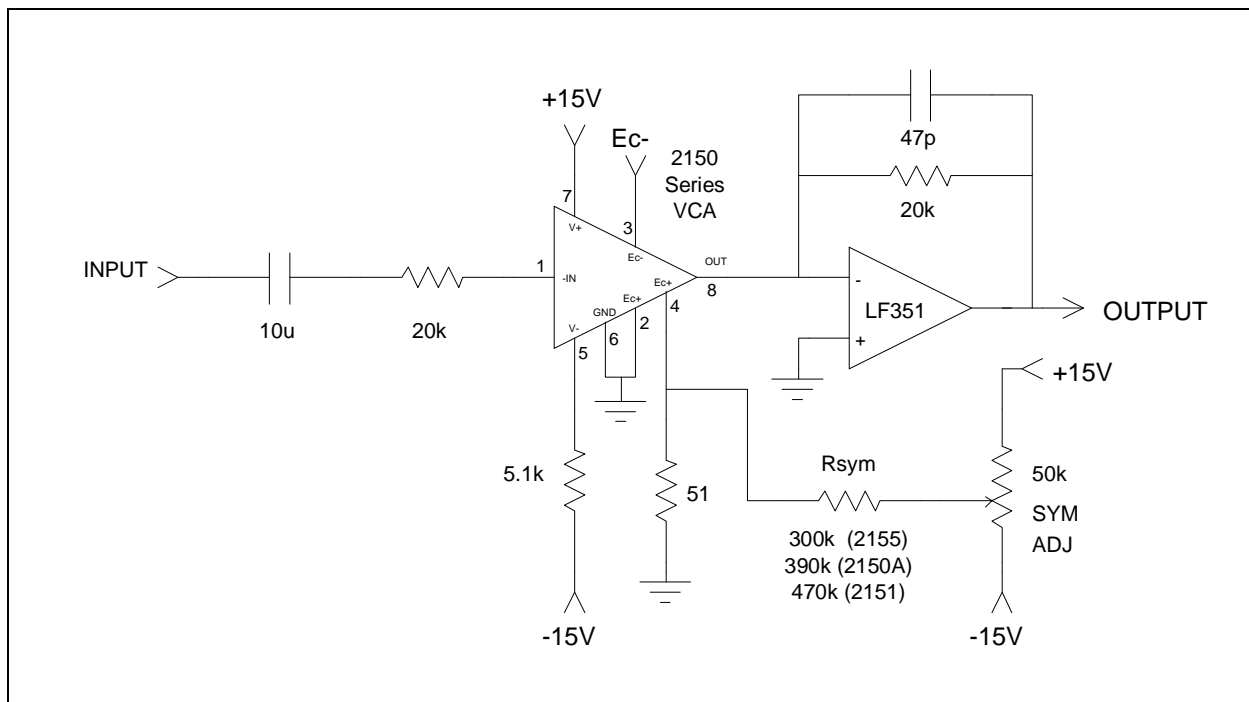
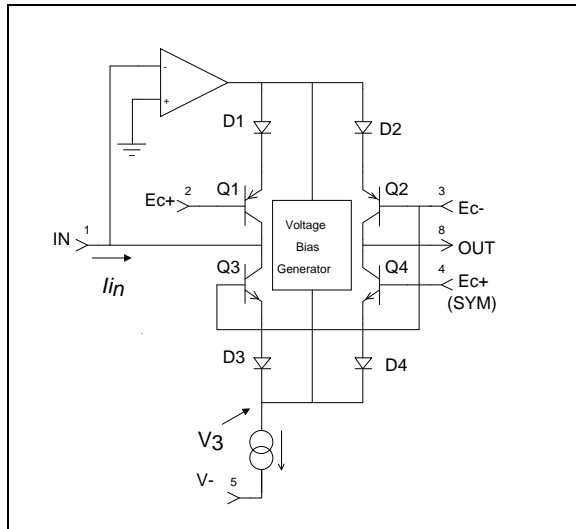
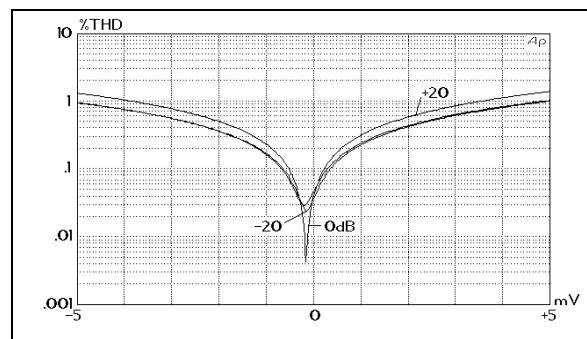
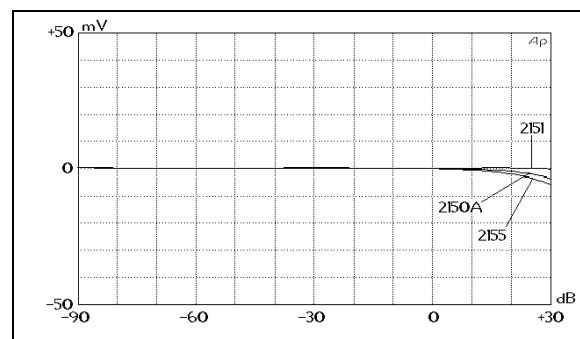

Figure 3. Typical Application Circuit
Figure 6. Simplified Internal Circuit Diagram
Figure 8. Typical THD Versus Symmetry Voltage
Figure 9. DC Offset Vs. Gain, After Symmetry Adjustment
2. Unless otherwise noted, T_A = 25°C, V_{CC} = +15V, V_{EE} = -15V. Test circuit is as shown in Figure 3. SYMADJ is adjusted for minimum THD @ V_{in} = 1 V, 1 kHz, 0 dB gain.
Figure 6 presents a considerably simplified internal circuit diagram of the IC. The ac input signal current flows in pin 1, the input pin. The internal op amp works to maintain pin 1 at a virtual ground potential by driving the emitters of Q1 and (through the *Voltage Bias Generator*) Q3. For positive input currents (I_{in} defined as flowing into pin 1), the op amp drives the emitter of Q1 negative, turning off its collector current, while simultaneously driving the emitter of Q3 nega-
In typical applications (see Figure 3, Page 3), pin 4 is connected to a voltage source at ground or nearly ground potential. Pin 8 is connected to a virtual ground (usually the inverting input of an op amp with negative feedback around it). With pin 4 near ground, and pin 8 at virtual ground, the voltage at the cathodes of D3 and D4 will cause an exponentially-related current to flow in D4 and Q4, and out via pin 8. A similar equation governs this behavior:
A quiescent bias current in the core transistors is established by the *Voltage Bias Generator* shown in Figure 6. This current acts like crossover bias in the output stage of a complementary class AB power amplifier, smoothing the transition between turning on the top (PNP) pair and the bottom (NPN) pair of transistors in the core. This lowers distortion greatly at some cost to noise performance, as the current noise of the core transistors (which run at approximately 20 μA) is the dominant noise source in the 2150 Series VCAs.
The monolithic construction of the devices assures relatively good matching between the paired transistors, but even small V_{BE} mismatches can cause unacceptable asymmetries in the output. For this reason, the bases of Q1 and Q4 are brought out separately to pin 2 and pin 4, respectively. This allows a small static voltage differential to be applied to the two bases. The applied voltage must be set to equal the sum of the V_{BE} mismatches around the core (*which varies from sample to sample*). Figure 3 (Page 3) includes a typical circuit to apply this symmetry voltage. R_{SYM} controls primarily even-order harmonic distortion, and is usually adjusted for minimum THD at the output. Figure 8 plots THD vs. the voltage between pins 2 and 4 (the two E_{C+} ports) for various gain settings of a typical part.
vent such dc terms, ac input coupling is strongly recommended. A plot of typical output offset voltage versus gain for the circuit of Figure 3 is shown in Figure 9. (The LF351's offset was adjusted to 0 V for this plot.)
The size of the current source at the bottom of the core (Figure 6, Page 4) is programmed externally via I_{SET} , which is normally determined by a resistor from pin 5 to V_- . The voltage at pin 5 is typically -2.7 V. I_{SET} divides into two portions: approximately 400 μ A is used for internal biasing, and the rest is available for the current source at the bottom of the core. I_{SET} should therefore be 400 μ A larger than the total of the peak input and output signal currents.
The input pin (pin 1) is a virtual ground with negative feedback provided internally (see Figure 6, Page 4). The input resistor (shown as 20 kΩ in Figure 3, Page 3) should be scaled to convert the available ac input voltage to a current within the linear range of the device. (Peak input currents should be kept under 1 mA for best distortion performance.) An additional consideration is stability: the internal op amp is intended for operation with source impedances of less than 30 kΩ at high frequencies. For most audio applications, this will present no problem.
The output pin (pin 8) is intended to be connected to a virtual ground node, so that current flowing in it may be converted to a voltage (see Figures 3, 14, & 15). Choose the external op amp for good audio performance. The feedback resistor should be chosen based on the desired current-to-voltage conversion constant. Since the input resistor determines the voltage-to-current conversion at the input, the familiar ratio of R_f/R_i for an inverting op amp will determine the overall voltage gain when the VCA IC is set for 0 dB current gain. Since the VCA performs best at settings near unity gain, use the input and feedback resistors to provide design-center gain or loss, if necessary.
symmetry voltage ($<\pm 2.5$ mV) to correct for V_{BE} mismatches within the VCA IC. For this purpose, the 2150 series devices were designed for optimum performance with an impedance of approximately 50Ω at pin 4. A trim pot is used to adjust the voltage between pin 4 and pin 2 as shown in Figure 3, Page 3. For supply voltages other than shown, scale R_{SYM} to provide the required adjustment range.